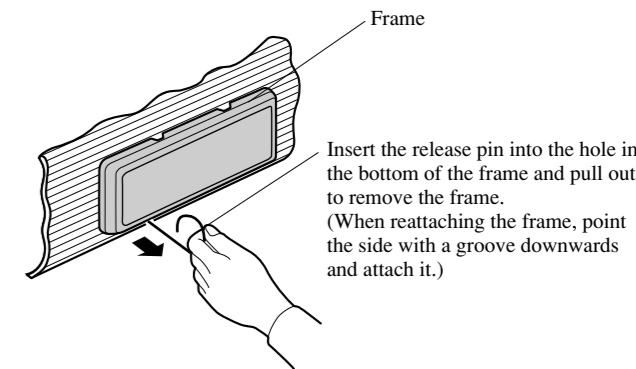
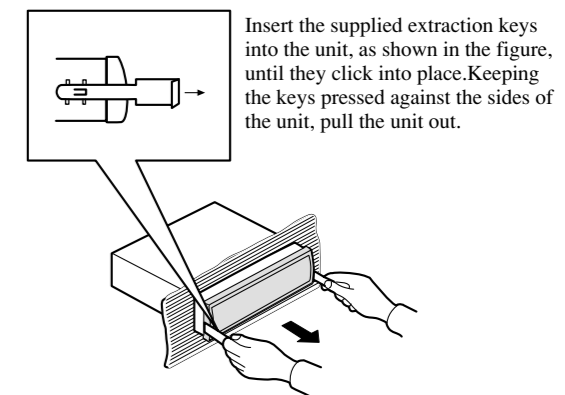

Fig. 6
Fig. 7
**Removing the Unit (Fig. 6) (Fig. 7)**